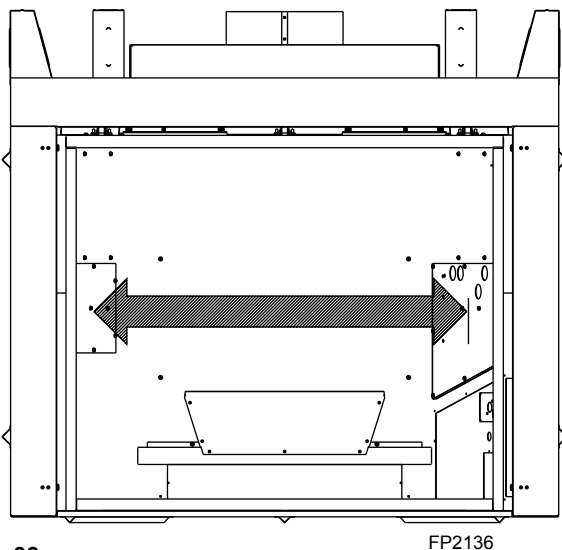

Figure 32 - Blower Access Covers
7. Remove the access covers on the right and left side walls of the firebox toward the front by unfastening the screws. **NOTE: The access covers are not identical.** *Figure 32*